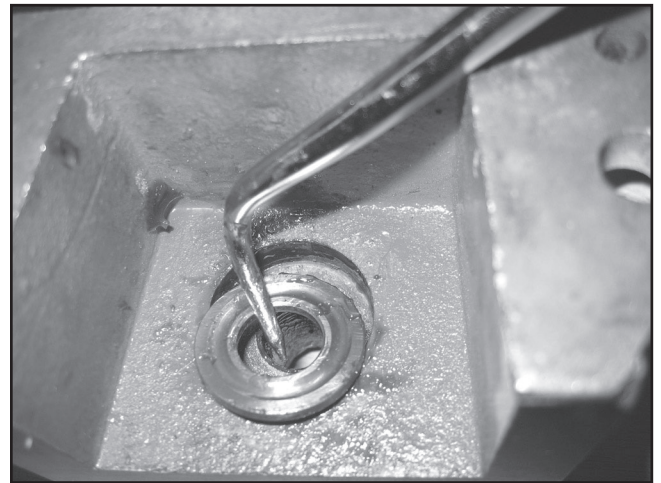

Figure 5. End-cap race removal.
5. Using a tool with a curved end, carefully work the inner bearing races (Figure 5) from both sides of the casting bore.